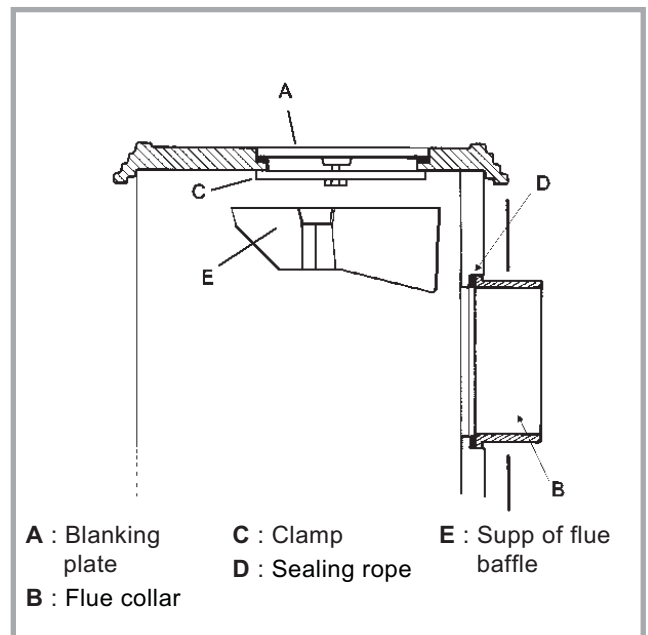

Figure 4 - Smoke exit at rear
2.5. Smoke exit at rear**Figure 4**